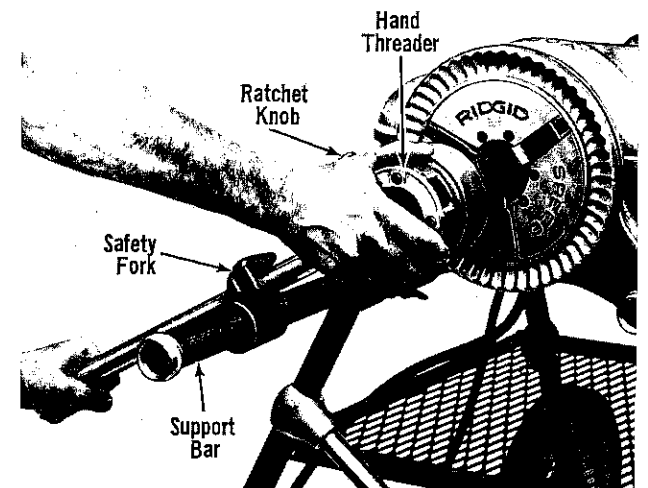

Figure 6. Pushing Hand Threader onto Pipe to Engage Dies.
1. Place Threader on end of pipe with Handle resting on Support Bar (Fig. 6) located on switch side. Hook Safety Fork over Handle.
4. Step on Foot Switch and push Threader (Fig. 6) with right hand to engage Dies.
7. Reverse Threader Ratchet Knob (Fig. 6).